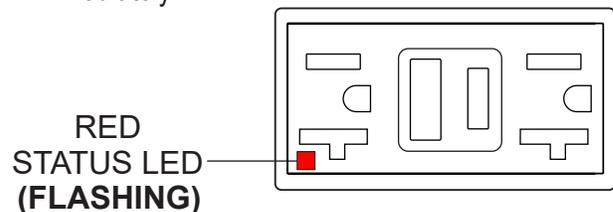

Figure 53. GFCI Receptacle (Red Flashing LED)
6. If the status LED (Figure 53) is **flashing (RED)**, **DO NOT** use the GFCI receptacle. Replace it immediately.